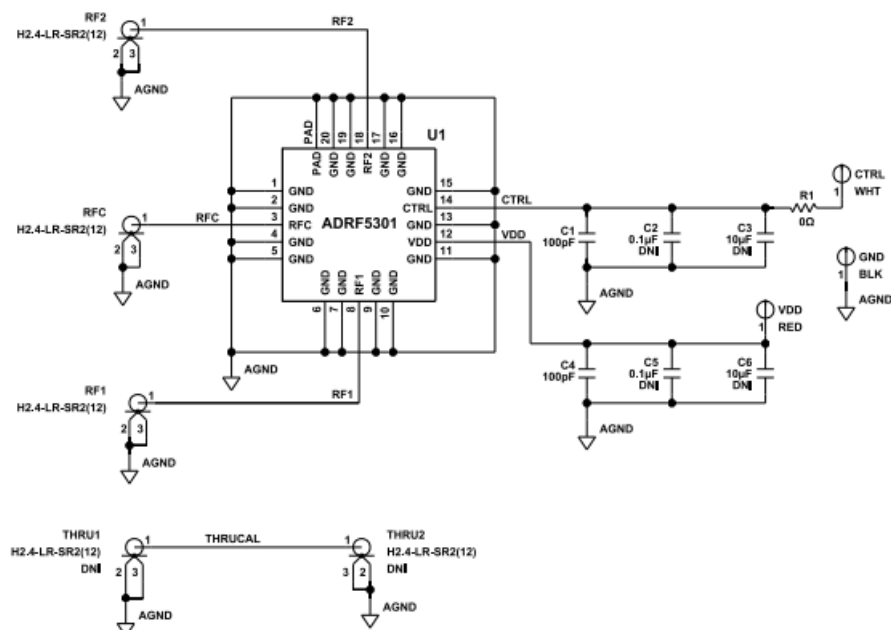
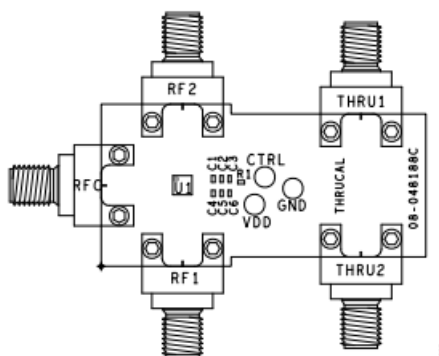

Figure 5. ADRF5301-EVALZ Schematic
Figure 6. ADRF5301-EVALZ Assembly Diagram
- All components are located on the primary side of the ADRF5301-EVALZ. Figure 5 shows the ADRF5301-EVALZ schematic, and Figure 6 shows the assembly drawing.